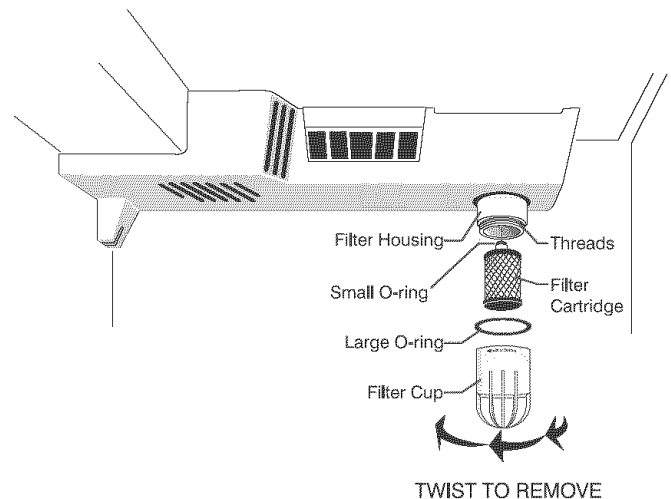

Figure 1
NOTE: If you purchased a refrigerator with a PureSource Plus™ Ice and Water filter, please read the following use and care information. This ice and water filter system filters water to your ice maker and water dispenser. It is located in the upper right back corner of the fresh food compartment (see Figure 1 on the following page).
Water supply does not need to be turned off, however do not use ice and water dispenser while installing filter. Refer to Figure 1 as you complete these instructions.
Refer to Figure 1 as needed. It is not necessary to turn the water supply off to change the filter.
2. Hold filter cup firmly, and unscrew counter clockwise (Figure 1). (Some water could leak out as you remove cup. This is normal.) Filter cartridge should come down with cup. If cartridge remains in housing, pull down gently, while twisting filter back and forth.
4. The large o-ring (Figure 1) that seals the filter system sets in the o-ring groove down inside the cup. Should the o-ring fall out during filter cartridge replacement, simply place it back in the groove prior to screwing the cup back in place. If the o-ring becomes damaged, you will need to order one from the Consumer Assistance Center.
10. Check for leaks. Open refrigerator door. Wipe any water drops from the filter cup. Run a glass of water. If there is a leak, unscrew filter cup, and reinsert the filter cartridge. Check placement of large O-ring (see Figure 1). Reinstall filter cup, making certain it is tightened completely.
2. To disconnect water line, grip tube firmly in left hand and use tool (located in bag under toe grille) to push in on gray collar to release water connector (Figure 1).